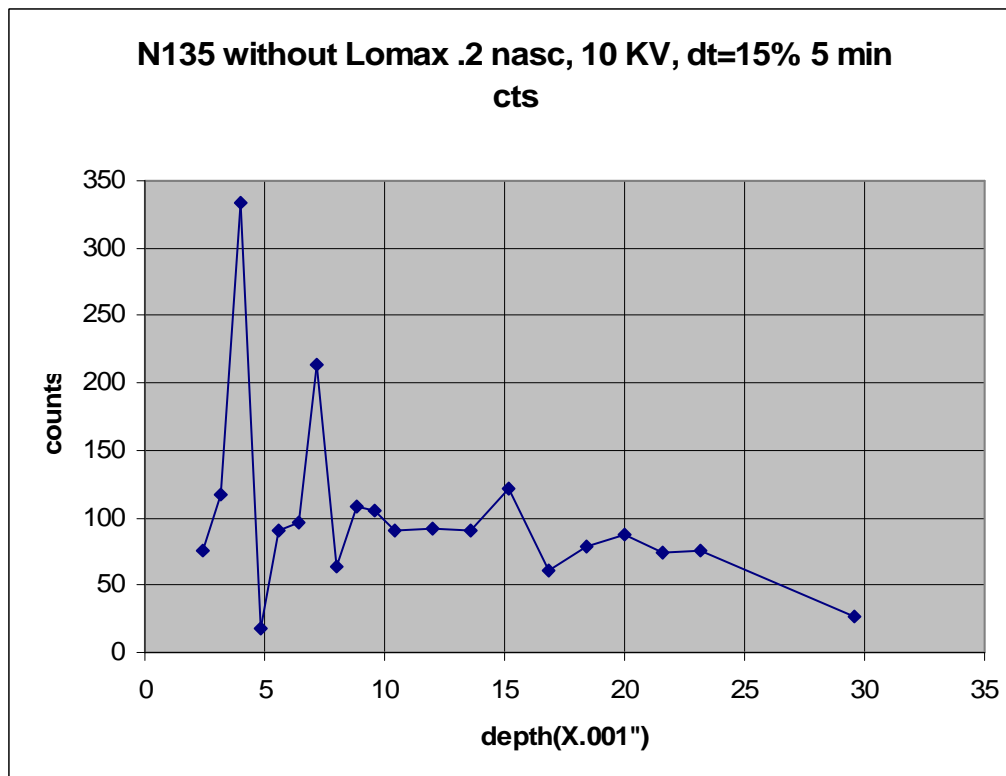
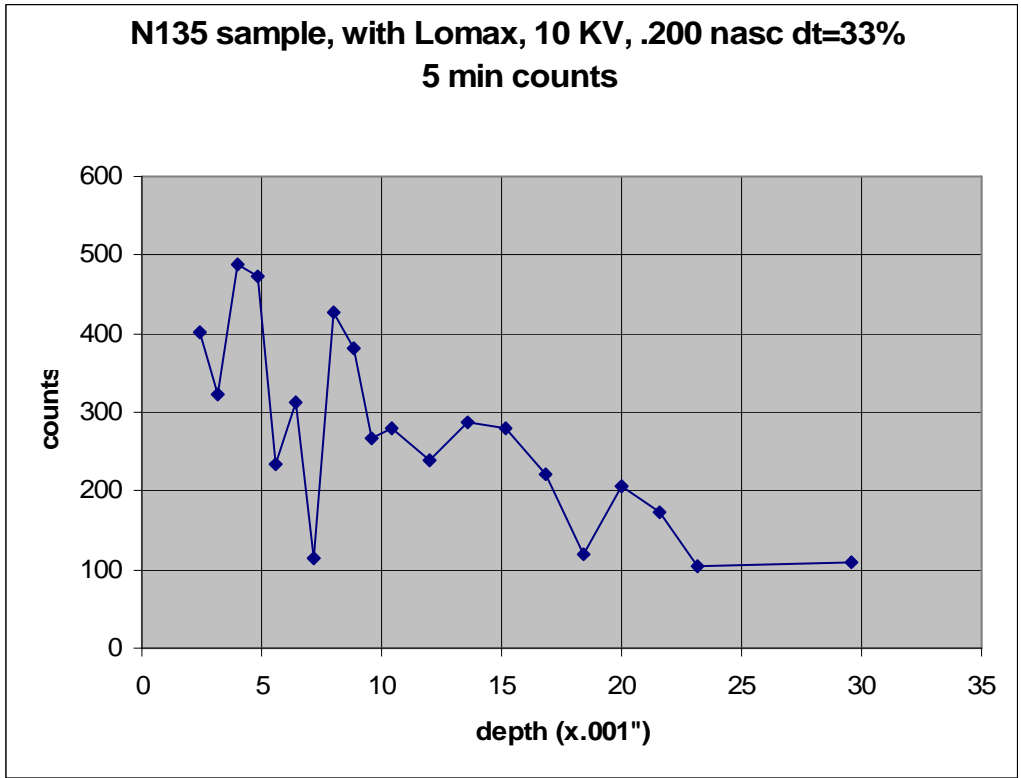
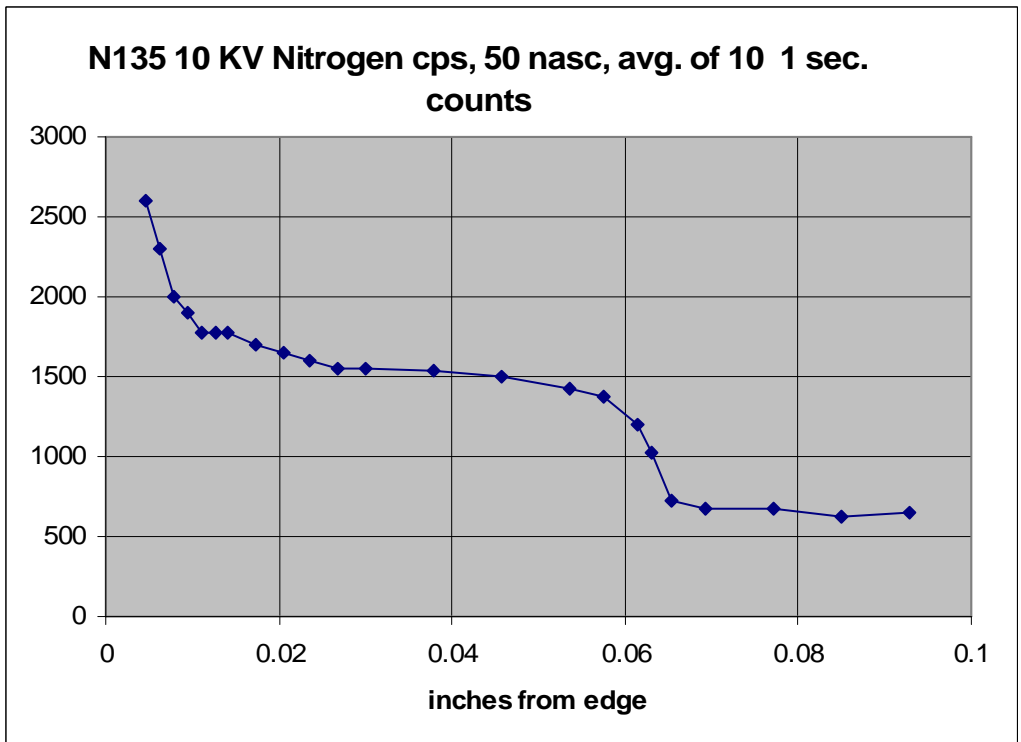

Fig. 1. Nitrogen depth profile using EDS without LoMAX. Each data point required 5 minutes.
Fig. 2. Nitrogen depth profile with LoMAX on EDS. Each data point required 5 minutes.
Fig. 3. Nitrogen depth profile using HEXS WDS. Each data point required 10 seconds.
Depth measurements of nitrogen content can be difficult due to the limited response of Energy Dispersive Spectrometers (and conventional curved crystal WDS) to Nitrogen x-rays. Fig. 1. shows data obtained with EDS using 5 minute counts to try to get good statistics, and although some depth data can be obtained, a real depth map would take a long time. Fig. 2 shows similar data obtained using the Parallax LoMAX optic on the EDS detector which increases the sensitivity for Nitrogen by 2-3X. The dead time was higher using the LoMAX because the LoMAX also increased the Fe (L) lines. By contrast, data obtained using the HEXS spectrometer (Fig. 3) is much better due to the increased sensitivity of HEXS to Nitrogen x-rays. Each data point in fig. 3 is an average of 10 1-second counts and the short acquisition time makes it possible to quickly obtain a depth profile of the Nitrogen.